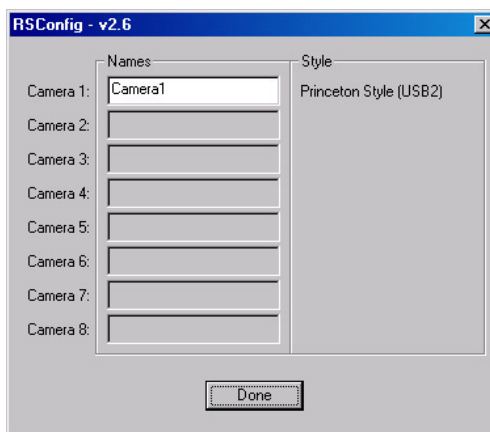

Figure 12. RSConfig dialog box
- When the RSConfig dialog box (Figure 12) appears, you can change the camera name to one that is more specific or you can keep the default name "Camera1". When you have finished, click on the **Done** button.